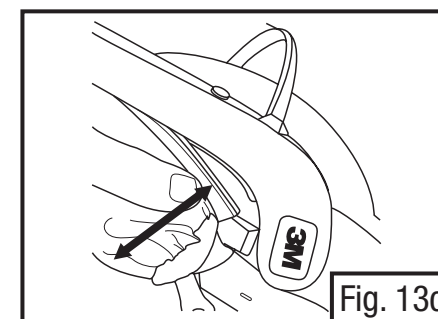

Fig. 13c
- Grasp the black face seal gasket and slowly pull straight out in small sections, working your way around the face seal (Fig. 13c).
- On the face seal, locate the side with the fabric “loop” which is sewn into the elastic. Holding the face seal with this side facing up, grasp the black gasket on the face seal and align with the edge of the groove in the visor frame. Starting with one edge, press the gasket firmly into the groove in small sections, working your way around the face seal (Fig. 13c). Both gasket ribs should be fully inserted into the groove.